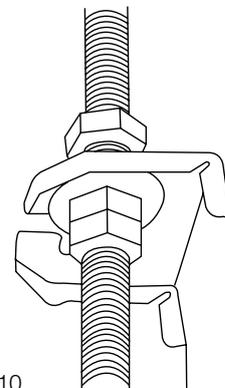

Fig. 4.10
8. Mount the indoor unit with at least two people to lift and secure it. Insert suspension bolts into the unit's hanging holes. Fasten them using the washers and nuts provided. (See Fig. 4.10)